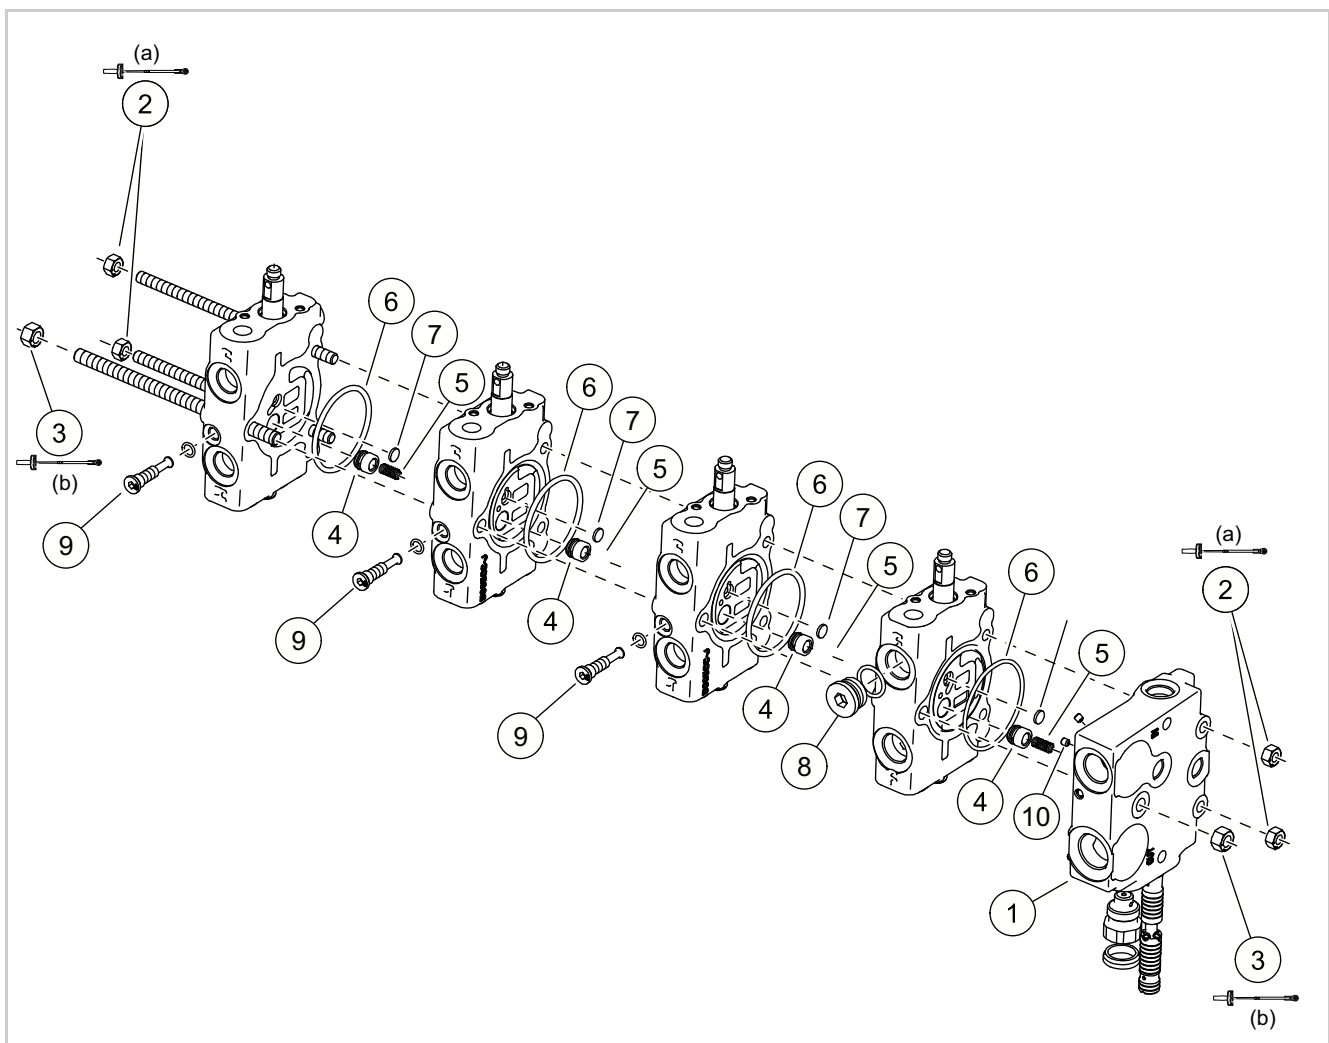

Fig. 3 (29854)
3. Install the orifice set screw (10, Figure 3).